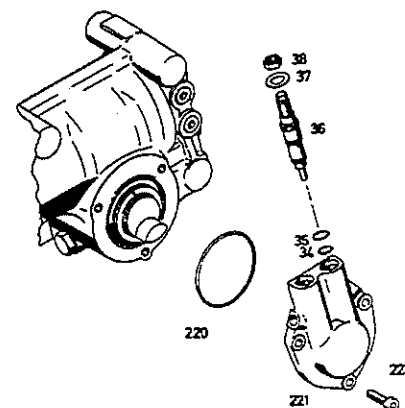

Fig.6
4.1 Versions with valves (36) - steering limiter valves
Unscrew hex nut (38) and remove washers (37) (*Fig.6*).